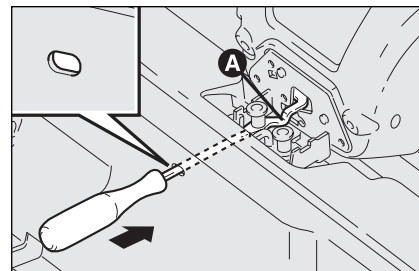

fig. 91
- ☐ take the screwdriver from the tool bag and fit it into the hole on the rear boot crossmember (see **fig. 91**);
- ☐ using the screwdriver, operate device **A-fig. 91** to open the tailgate.